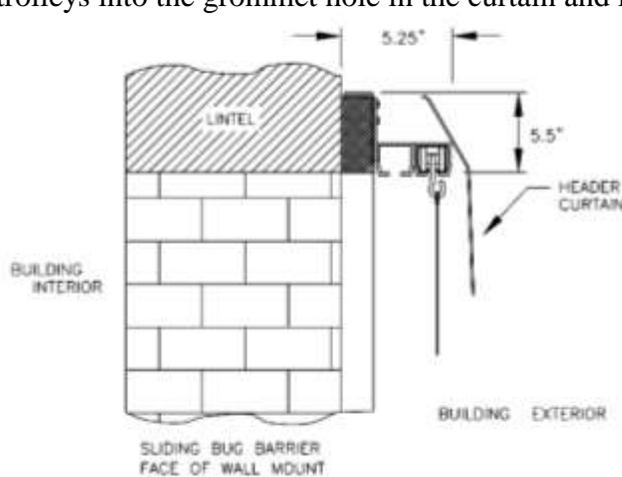

FIGURE 3
5. Hang Curtain Assembly (See Fig. 3 and 4). Take the entire curtain half assembly with pipe staffs installed and lean it against the jamb. Do the same for the other half. Slip the leading edge pipe staff into the track, continue to thread the curtain into the track and install the hook trolleys into the grommet hole in the curtain and install the trolley into the track.
10. Fastening the header curtain (See Fig. 3). Nailing every other hole, fasten header curtain along the top of horizontal 2 x 6 with clamp strip and roofing nails provided. The Gateway Logo should face building exterior.